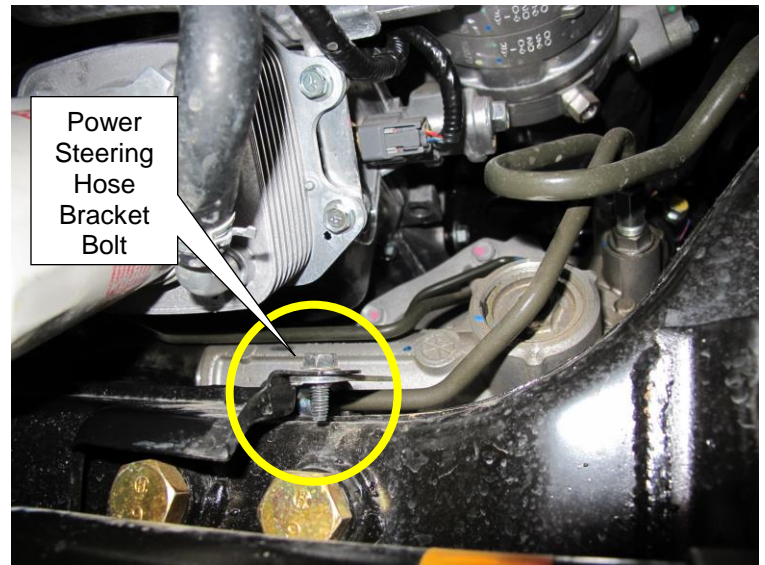

Figure 6
8. Power Steering Oil Pressure Hose connection/O-ring repair (Figure 6).